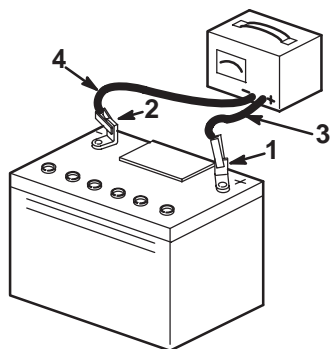

Figure 33
4. When the battery is fully charged, unplug the charger from the electrical outlet, then disconnect the charger leads from the battery posts (Fig. 33).